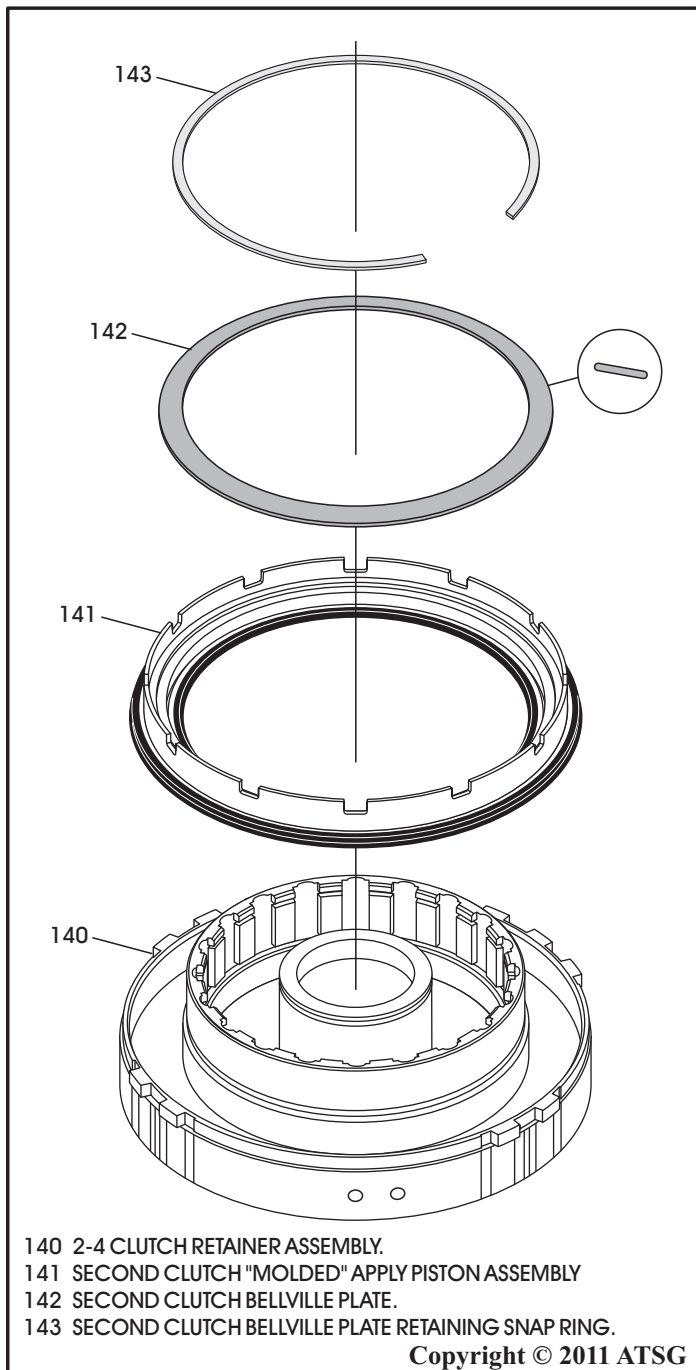

Figure 81
5. Install the "molded" 2nd clutch piston into the 2-4 clutch retainer, as shown in Figure 81.
7. Using a suitable shop press, compress bellville spring until the snap ring is engaged into the snap ring groove in 2-4 retainer, and ensure that it is fully seated (See Figure 81).